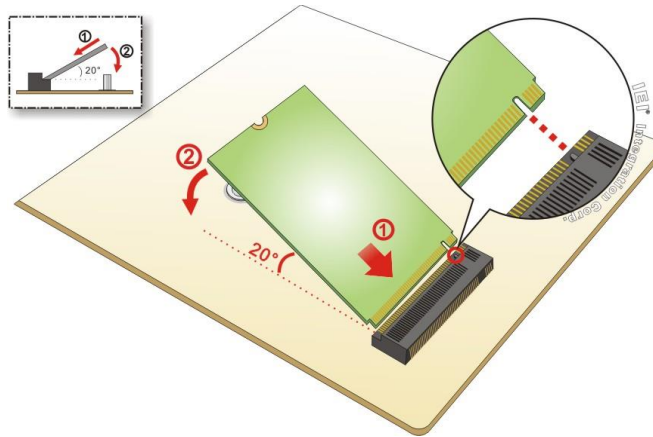

Figure 3-2: Inserting the M.2 Module into the Slot at an Angle
- Step 3:** Line up the notch on the module with the notch on the slot. Slide the M.2 module into the socket at an angle of about 20° (**Figure 3-2**).